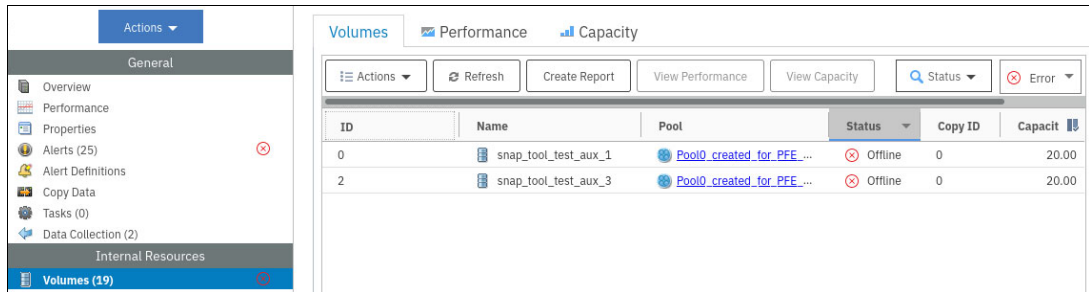

Figure 9-77 Offline volumes
Clicking **Volumes** reveals the offending volumes, as shown in Figure 9-77 on page 618.
- ▶ **View List:** Similar to IBM Spectrum Control, as shown in Figure 9-77 on page 618.